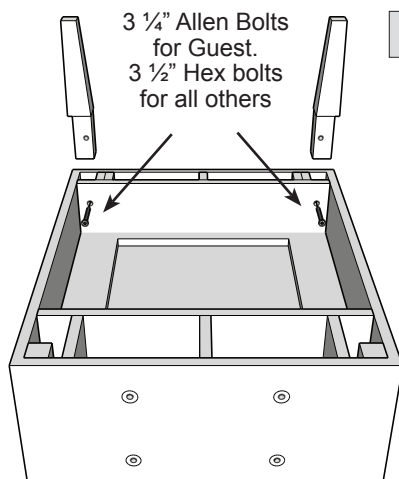

Figure 1
2. Lay seat upside down on a soft clean surface as shown in figure 1 and insert front legs into slots. *Pay close attention to correct leg orientation.* Use a rubber mallet to ensure legs are fully inserted.